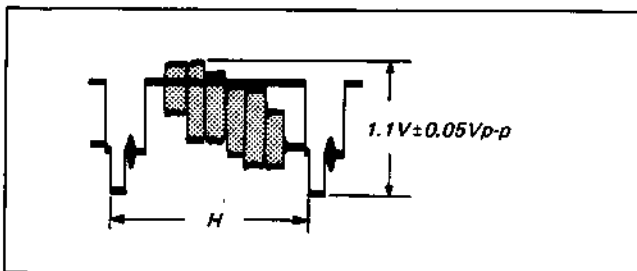

Fig. 4-4-13. Peak AGC adjustment
- (1) Supply the VTR with the colour bar signal and set up the E-E mode.
- (2) Connect the oscilloscope to pin 24 of IC1.
- (3) Adjust RV1 for maximum output level of the video signal and then adjust RV8 so that the output level of the video signal becomes $1.1\text{V} \pm 0.05\text{Vp-p}$. (See Fig. 4-4-13.)